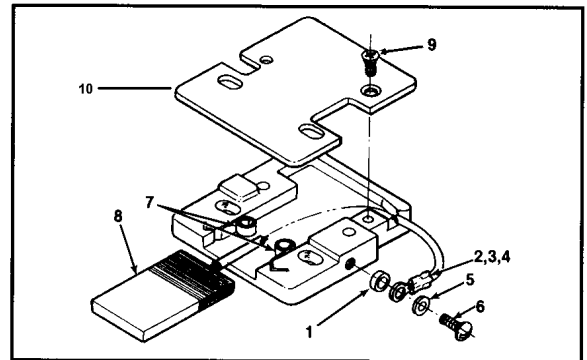

Figure 17 - 3E2320 Series Brush Modules
To accommodate the increased propeller de-icing system usage by regional air carriers, Goodrich designed a constant force modular brush assembly. Each constant force modular brush assembly contains two or more brush modules. Each module consists of a plastic housing with an integral brush and two constant force springs. Variations of the basic module (P/N 3E2320) are shown in Figure 17. The brush modules are stacked with appropriate spacers to produce constant force modular brush assemblies. The P/N's for constant force modular brush assemblies are 3E2334-1, -2; 3E2342-1, -2, 3; 3E2346-1, -2, -3; 3E2414-1, -2, -3; 3E2456-1, -2, -3 and 3E2457-1, -2, -3. Figures 20-24 provide Illustrated Parts Lists for these assemblies. Each series includes a different combination of brush modules and spacer(s). Different dash numbers within a P/N series indicate different stacking arrangements. Screws hold the brush modules and spacers together, forming the constant force modular brush assembly.
P/N 3E2320-6 is a universal replacement brush module for constant force modular brush assemblies. It can be used in place of module assemblies 3E2320-1,-2,-3,-4, -5 & -9. The -6 universal module comes with A, B C & D wire markers and nylon spacers, so it can be configured as required for the specific application. Be sure to note the correct terminal identification and spacer position, so that the -6 universal module can be correctly configured. See Figure 17 for Parts Lists of 3E2320 series brush modules, including the -6 universal module.
* 3E2320-6 is the replacement part number. (Figure 17)
* 3E2320-6 is the replacement part number. For 3E2320 parts list, see Figure 17.